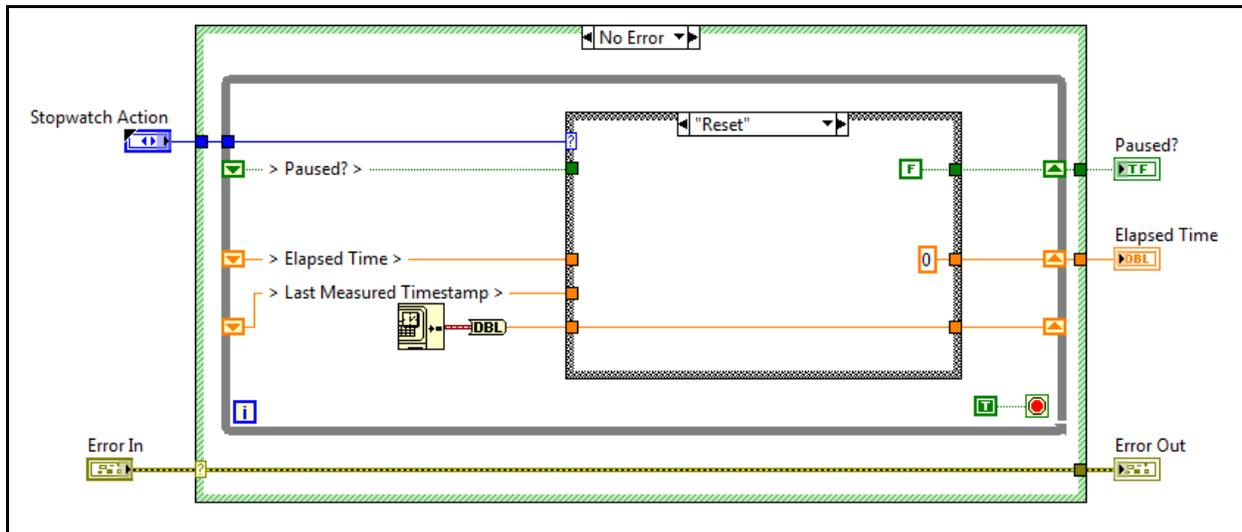

Figure 5. Completed Reset Case of the Functional Global Variable
13. Wire the Reset case as seen in Figure 5.